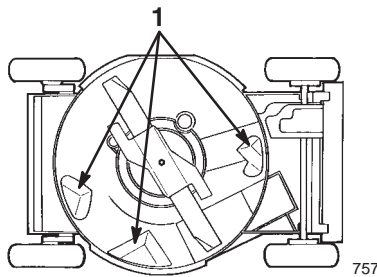

Figure 15
To ensure the best performance, keep the underside of the housing clean. Be especially careful to keep the kickers free of debris (Fig. 15).
3. Tip the lawn mower onto its **left** side (air cleaner up) (Fig. 15).